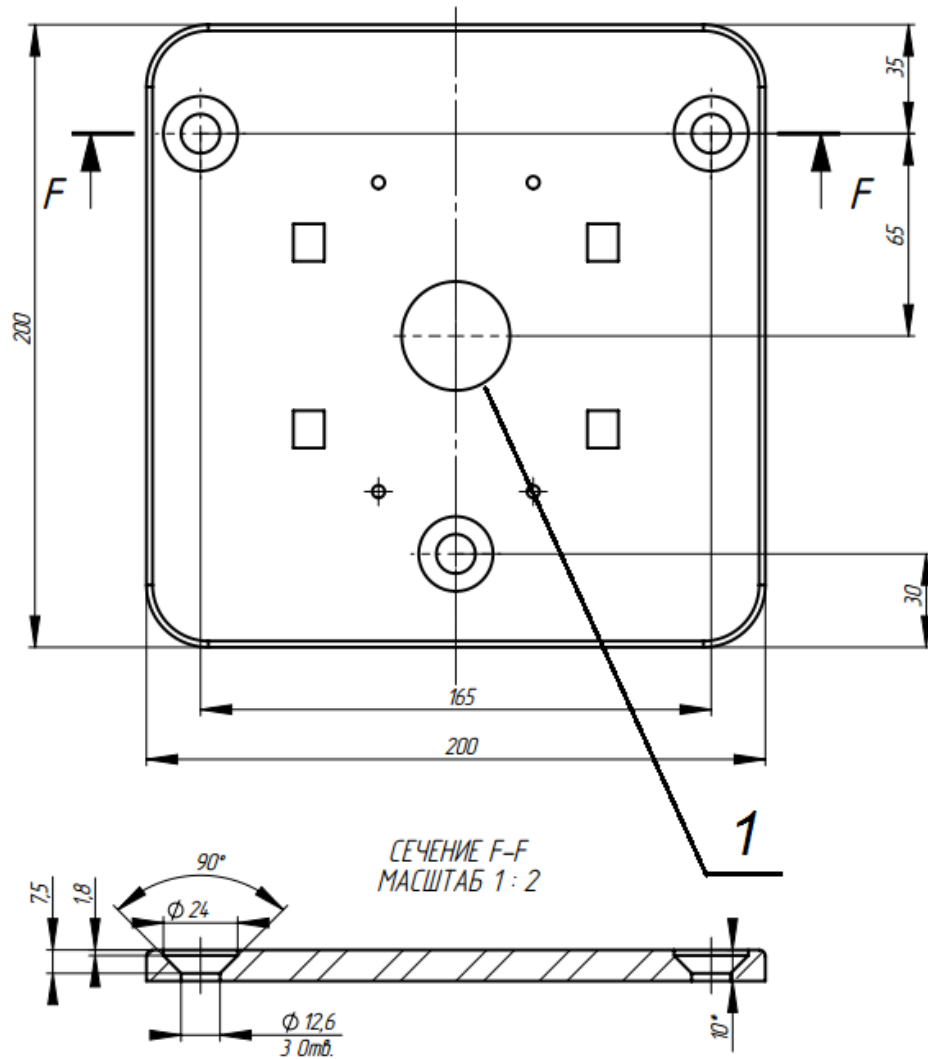
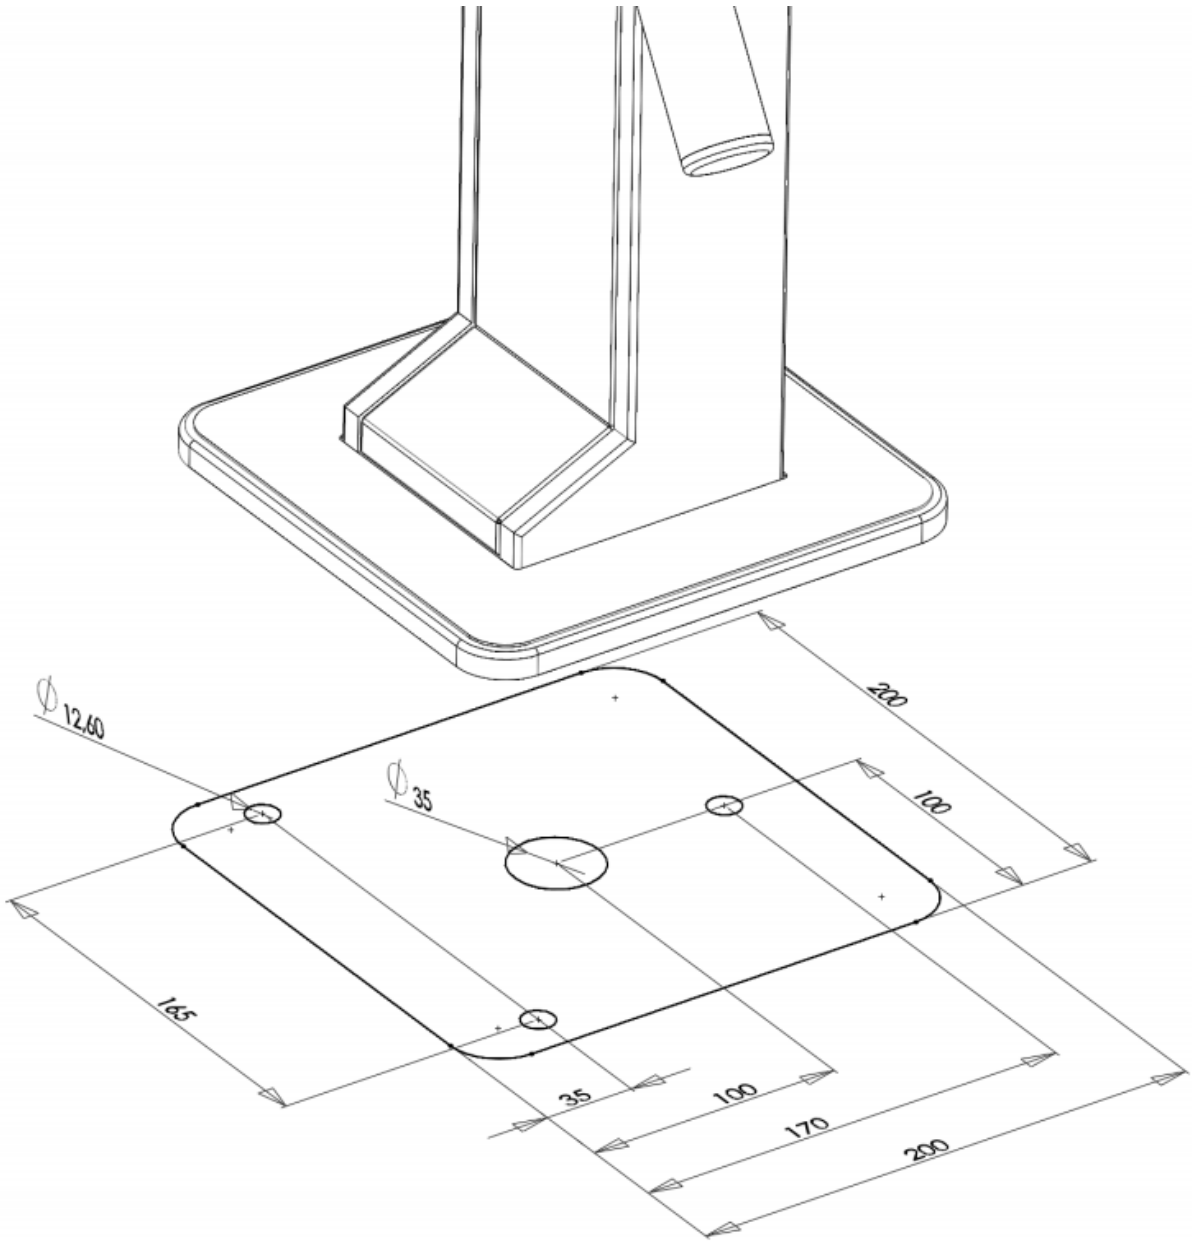

Fig. 7. Installation dimensions (Provided a drawing of the bottom support of the turnstile)
Fig.17. Location of installation holes and turnstile dimensions
4.2.3 According to the setting dimensions (Fig.7), prepare 3 holes 12 mm in diameter in the floor for fixation anchors of the turnstile housing. Location of the installation holes related to external dimensions of the turnstile is presented in the Appendix 3 (Fig.17). Depth of the hole should exceed the length of the anchor for more than 5mm. Insert the anchors in the holes.
4.2.4 Cable routing is exercised through the hole 1 (Fig.7) located at the lower turnstile panel. It is required to prepare the trench for cable laying.
4.2.7 Mount the turnstile housing to the prepared site (Fig.7). Put remote control panel, PS and, if necessary, ACS and SFAS cables to the turnstile housing. Cables feed will be done through the hole 1 located at the bottom plate of the turnstile (Fig.7). Secure cables with cable ties.